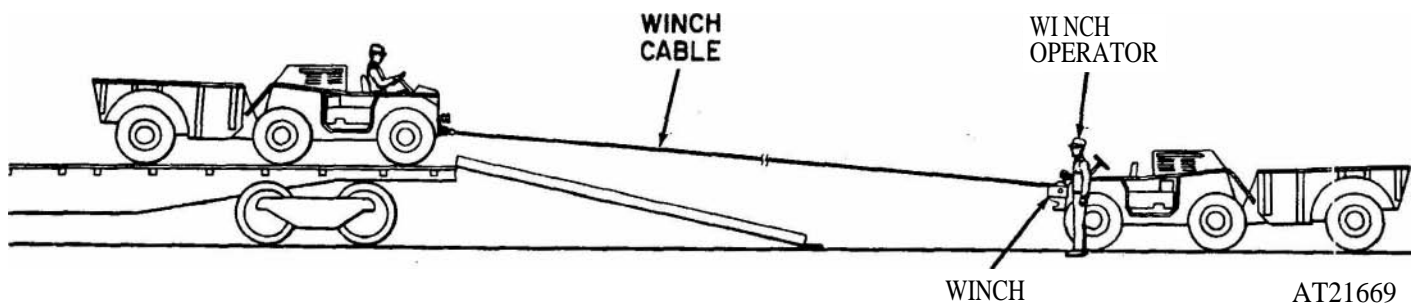

Figure 2-3. Towing M561 cargo truck off carrier.
(1) When cargo truck is shipped by rail or tractor-trailer in an inoperative condition, position carrier as instructed in b. (1) above.
(2) Position towing vehicle with winch at least 80 feet from and in front of ramp, connect winch cable to towing eyes, and take up slack (fig 2-3).
(3) Operator of towed vehicle will test foot and hand (parking) brake for holding power, then signal winch operator to apply power. Crew members with chocks will position themselves at wheels so that wheels may be blocked should brakes fail.